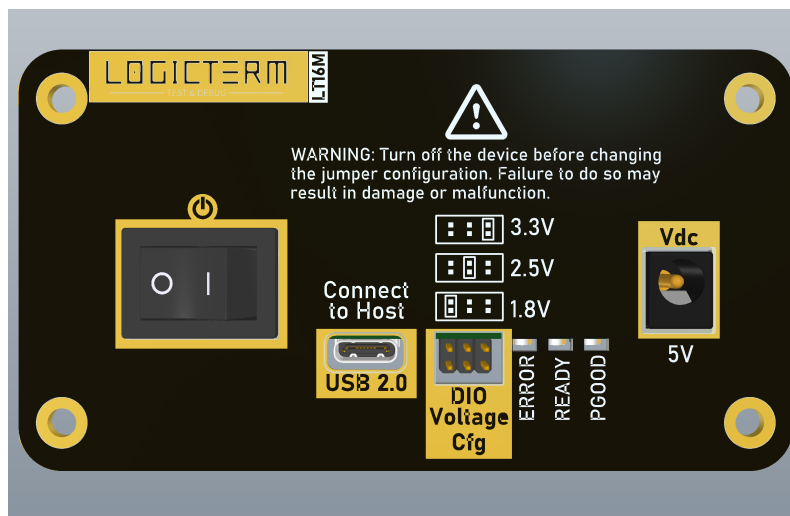

Figure 2.2: Back panel of LT16M showing jumper configuration
- **2 DACs** (0–10V, 1 MS/s, 16-bit) ③ ④
- **Programmable Power Supply (PPS)** with 7 current ranges and clamping ②
- **Fixed power rails:** 3.3V, 2.5V, 1.8V, 1.2V @ 200mA ⑤
- **User I/O:** RGB LED (ULED) ⑨ and push button (UBTN) ⑧
- **System status indicator** can be Red (Disconnected), Green (Ready), or Blue (Running) ⑩
- Selectable LVCMOS levels: 1.8V, 2.5V, 3.3V (via jumper, figure 2.2)
The LT16M supports three digital I/O voltage levels: 1.8V, 2.5V, and 3.3V. These are selected using a jumper on the back panel, refer to Figure 2.2.